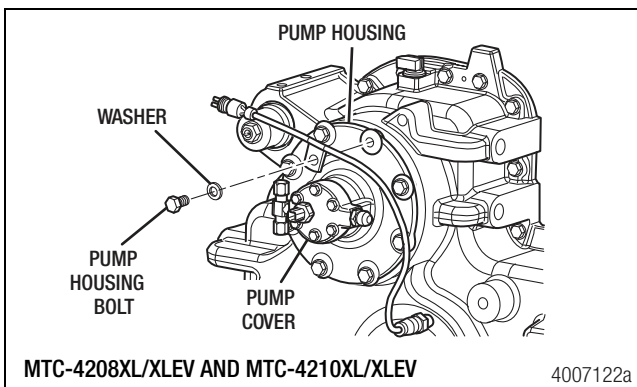

Figure 5.10
2. Remove the pump housing washers and bolts. Remove the pump housing and cover. Figure 5.10.